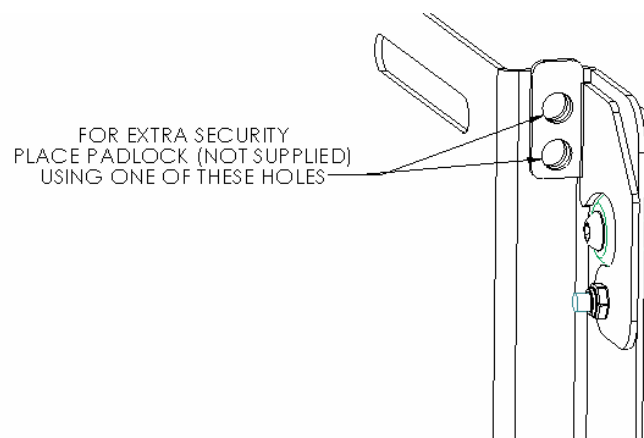

Figure 6
6. Position (raise) the flag to secure the display. Use padlock (not supplied) to secure flag to mount if needed (see Figure 6).